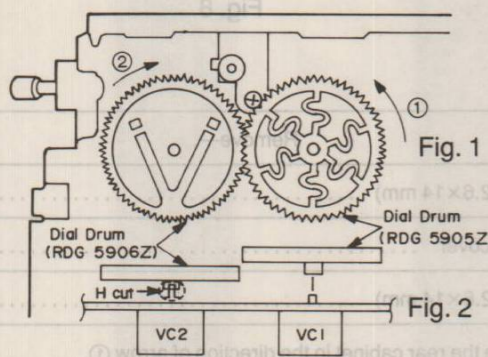

Fig. 1
1. Connect the dial drum (RDG 5905Z) to VC1, and then turn it all the way in the direction (counterclockwise) indicated by arrow ① as shown in Fig. 1.
2. Turn VC2 all the way in the direction (clockwise) indicated by arrow ②, and then mount the dial drum (RDG 5906Z) in a position like that shown in Fig. 1.